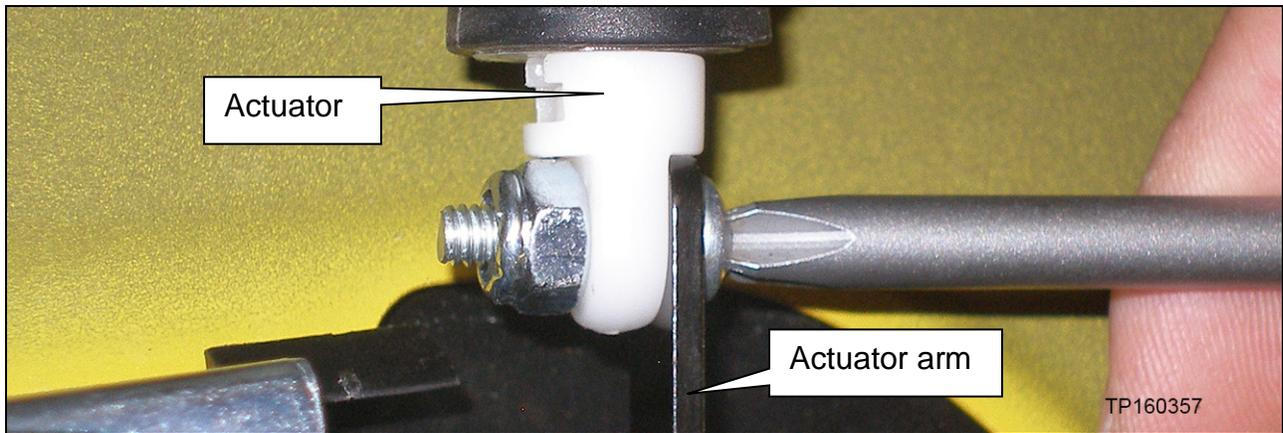

Figure 9
c. Remove the actuator arm from the actuator and discard (figure 9).